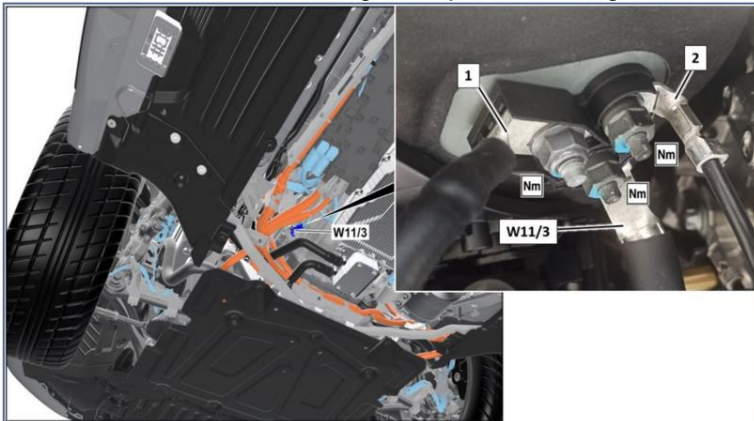

Figure 7
2. Check threaded connections at ground points (**1, 2, W11/3, Figure 7**) for correct tightening torque.
- Left combustion engine ground point (**W11/3, Figure 7**) **20 Nm**
- Circuit 31 ground point with code B01 (**2, Figure 7**) **20 Nm**
- Circuit 41 ground point, with engine 654 and with code B01 (**1, Figure 7**) **16 Nm**
1. Remove respective affected nut from ground point (**1, 2 or W11/3, Figure 7**) and perform a visual check of the affected electric line, contact area, and weld stud.
1. Replace respective nut at ground point (**1, 2 or W11/3, Figure 7**) and tighten with specified tightening torque.